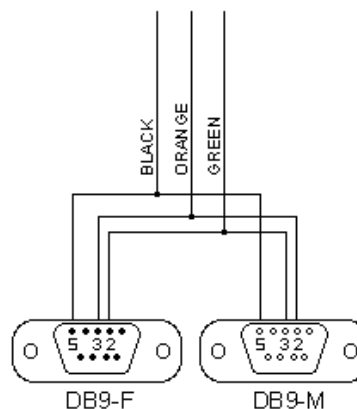

Figure A4.2. Pigtail Wiring Diagram
2. Connect the pigtail (exposed wires) on the other end of the cable to the Converter (example shown in Figure A4.2) as follows:
8. Connect the male, DB-9 RS232 connector on the AO splitter cable (Figure A4.2) to the female, DB-9 RS232 connector on the Argonaut power and communications cable.